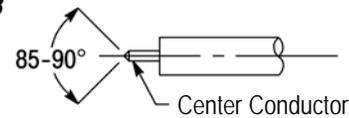

Figure 2
- Strip the cable to the dimensions shown in Figure 2, Detail A. Shape the blunt end of the center
conductor to an 85° to 90° cone as shown in Figure 2, Detail B.